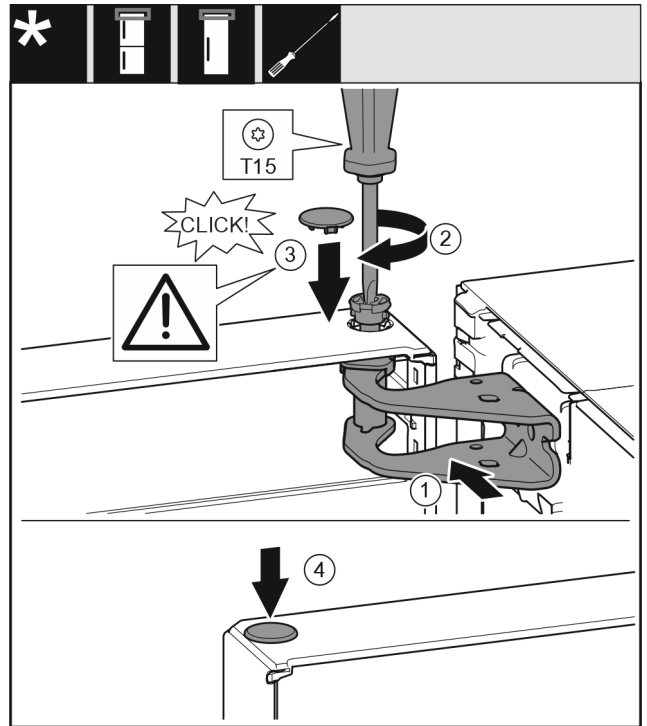

Fig. 21
- ▶ Align the top of the door with opening in the bearing bracket. Fig. 21 (1)
- ▶ Insert the bolt Fig. 21 (2) and use screwdriver to tighten it.
- ▶ Fit the safety cover Fig. 21 (3) to secure the door: Insert the safety cover and check whether the door is resting on it. Otherwise, insert the bolt fully.
- ▶ Insert the plug Fig. 21 (4).